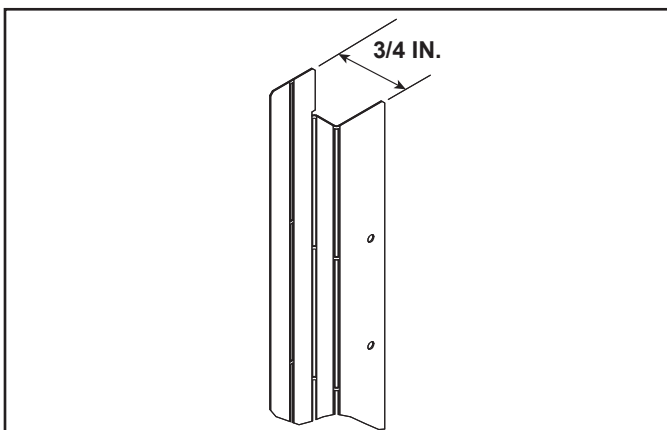

Figure 10.1 Side Finishing Template Bend - LMOD Series Doors
2. If applicable, bend the left and right side templates for the appropriate door type using Figure 10.1 as a reference.